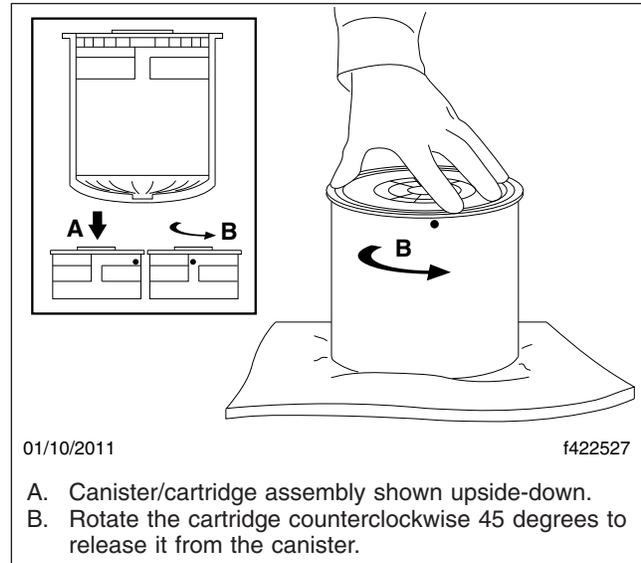

Fig. 2, Releasing the Cartridge
- Place the assembly upside-down as shown in Fig. 2. Press the cartridge down to compress the rubber spring then rotate counterclockwise 45 degrees to release the cartridge. The cartridge itself contains no hazardous material, but there may be a small amount of oil from the compressor.